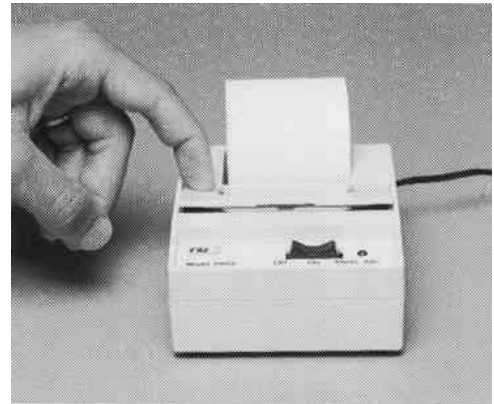

Figure VIII-1. Removing the print mechanism cover
- Step 1.** With the printer switched off, push down on the left side of print mechanism cover and remove the cover (fig. VIII-1).